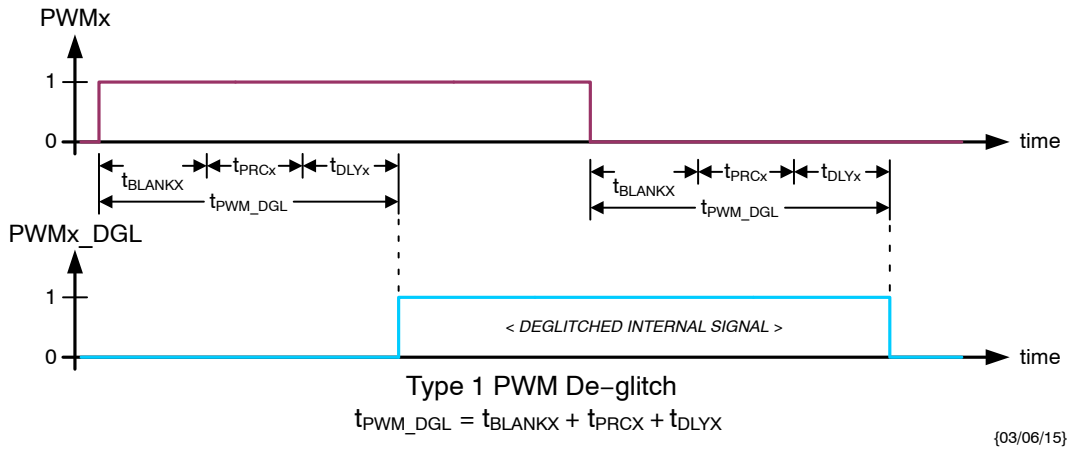
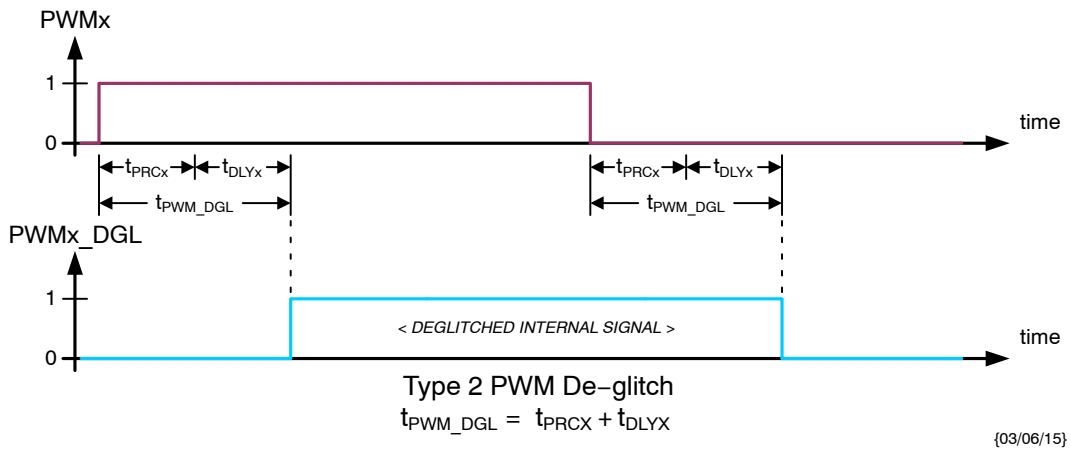
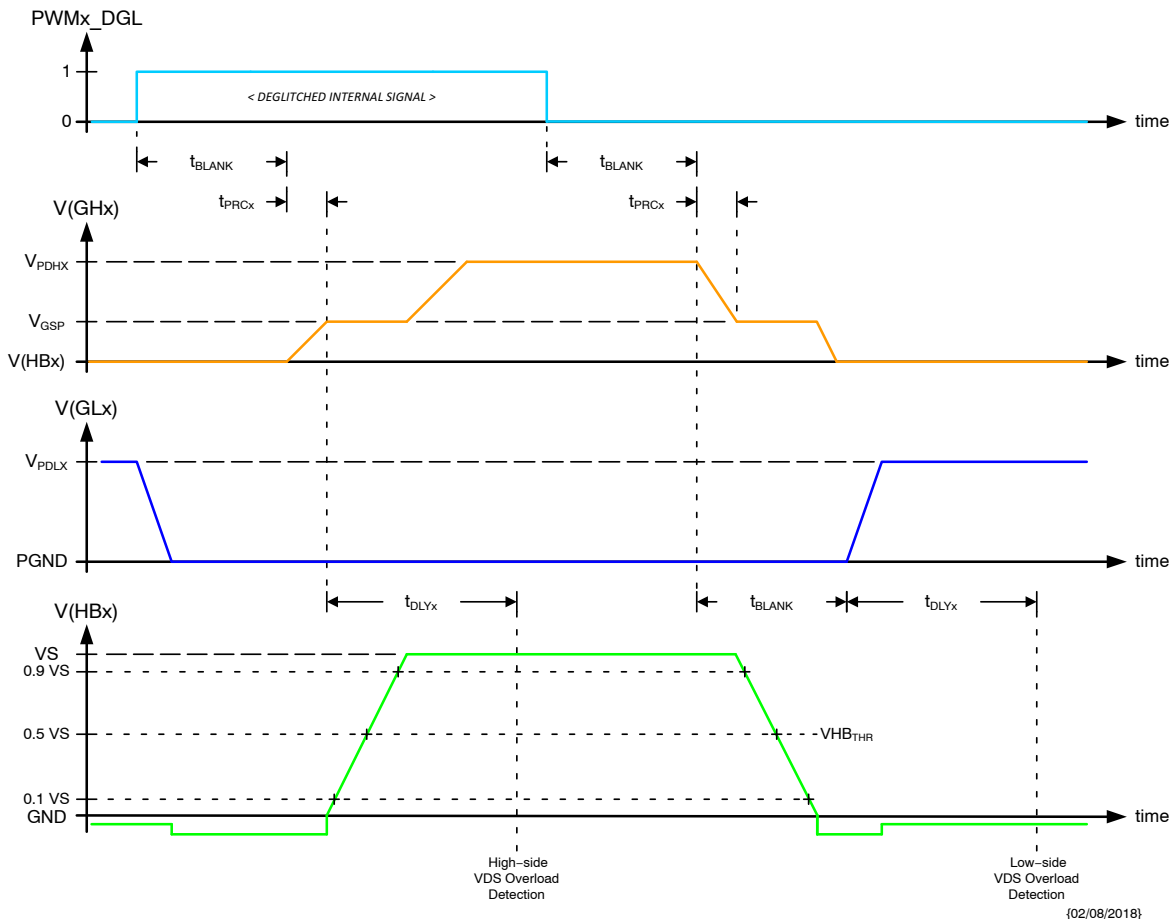

Figure 10. Type 1 PWMx Input De-glitch - CR14.DGLx = 0
Figure 11. Type 2 PWMx Input De-glitch - CR14.DGLx = 1
Figure 12. HBx Output Switching in Half-Bridge Configuration
When multiple PWMx inputs are needed to be active, the scheduled PWM signals should be offset in time to avoid degradation of the VDS overload detection due to crosstalk (see § *Overload Protection*). The minimum offset should be based on the  $t_{PWM\_DGL}$  times appropriate for the respective channels (see § *Switching Behavior of Half-bridge Drivers*, Figure 10 and Figure 11).
- adaptive PWM input de-glitch construction when in half-bridge configuration is selected by DGLx[6:0] bits (see Figure 10, Figure 11, Table 21 and Table 22).
In order to not overload the charge pump circuit in case of loss of VS or in case of a disconnected security switch, the steady state output current of the high-side gate drivers is limited to  $I_{GHX\_SS}$  after  $t_{TIMEOUT}$  (see  $I_{GHX}$  in Figure 12 and § *Electrical Characteristics: Half-Bridge Pre-Driver Outputs*).
When operating in PWM mode, type 1 de-glitch is selected when CR14.DGLx = 0 (see Figure 10) and the adapted time is given by:
Type 2 de-glitch is selected when CR14.DGLx = 1 (see Figure 11) and the adapted time is given by:
When operating in PWM mode, the timing of the gate drivers is according to Figure 12.
- the PWMx\_DGL resulting from the channel's operating configuration (see § *Switching Behavior of Half-bridge Drivers*, Figure 10 and Figure 11);
The appropriate latch is set (after the adapted  $t_{PWM\_DGL}$  - see Figure 10 and Figure 11) at the start of the switch activation (see V(HBx) in Figure 12). In the case of the high-side MOS, the delay time  $t_{DLYX}$  is started at the end of the pre-charge time ( $t_{PRCX}$ ). In the case of the low-side MOS, the delay time  $t_{DLYX}$  is started concurrent with the GLx turn-on current (see I(GLx) in Figure 11). At the end of time  $t_{DLYX}$  the switching node voltage is compared with the appropriate VDSTHR\_R or VDSTHR\_F overload detection threshold (see § *Electrical Characteristics: Half-Bridge Diagnostics*).